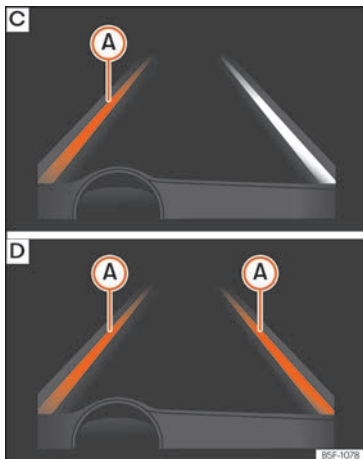

Fig. 268 On the instrument panel display: Indication on the Lane Assist system display (example 2).
- The system is operational, the highlighted line (A) indicates that there was a risk of involuntarily crossing the lane line and that the steering is being adjusted to correct the angle » **Fig. 268 C**.
- The two highlighted lines (A) light up simultaneously when both lane lines are recognised and the Lane Assist function is active » **Fig. 268 D**.